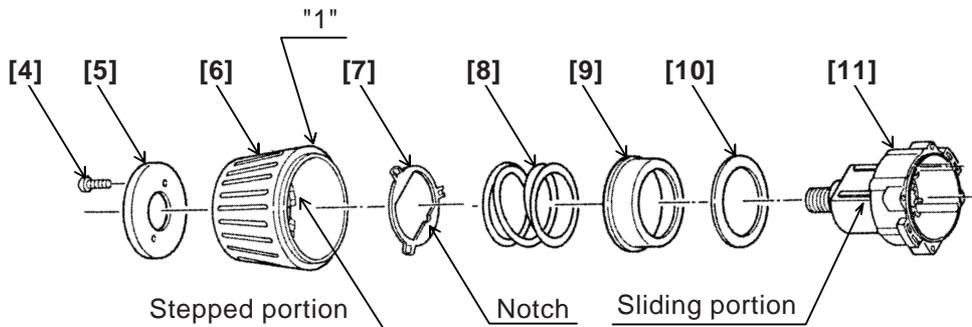

Fig. 4
(2) Reassembly of the clutch unit (See Fig. 4.)
(ii) When installing the Cap [6] to the assembly reassembled in step (i), be careful of the position of the numbers on the Cap [6] and the notch of the Clutch Plate [7]. The indication "1" of the Cap [6] must be on the opposite side of the notch of the Clutch Plate [7]. (See Fig. 4.)